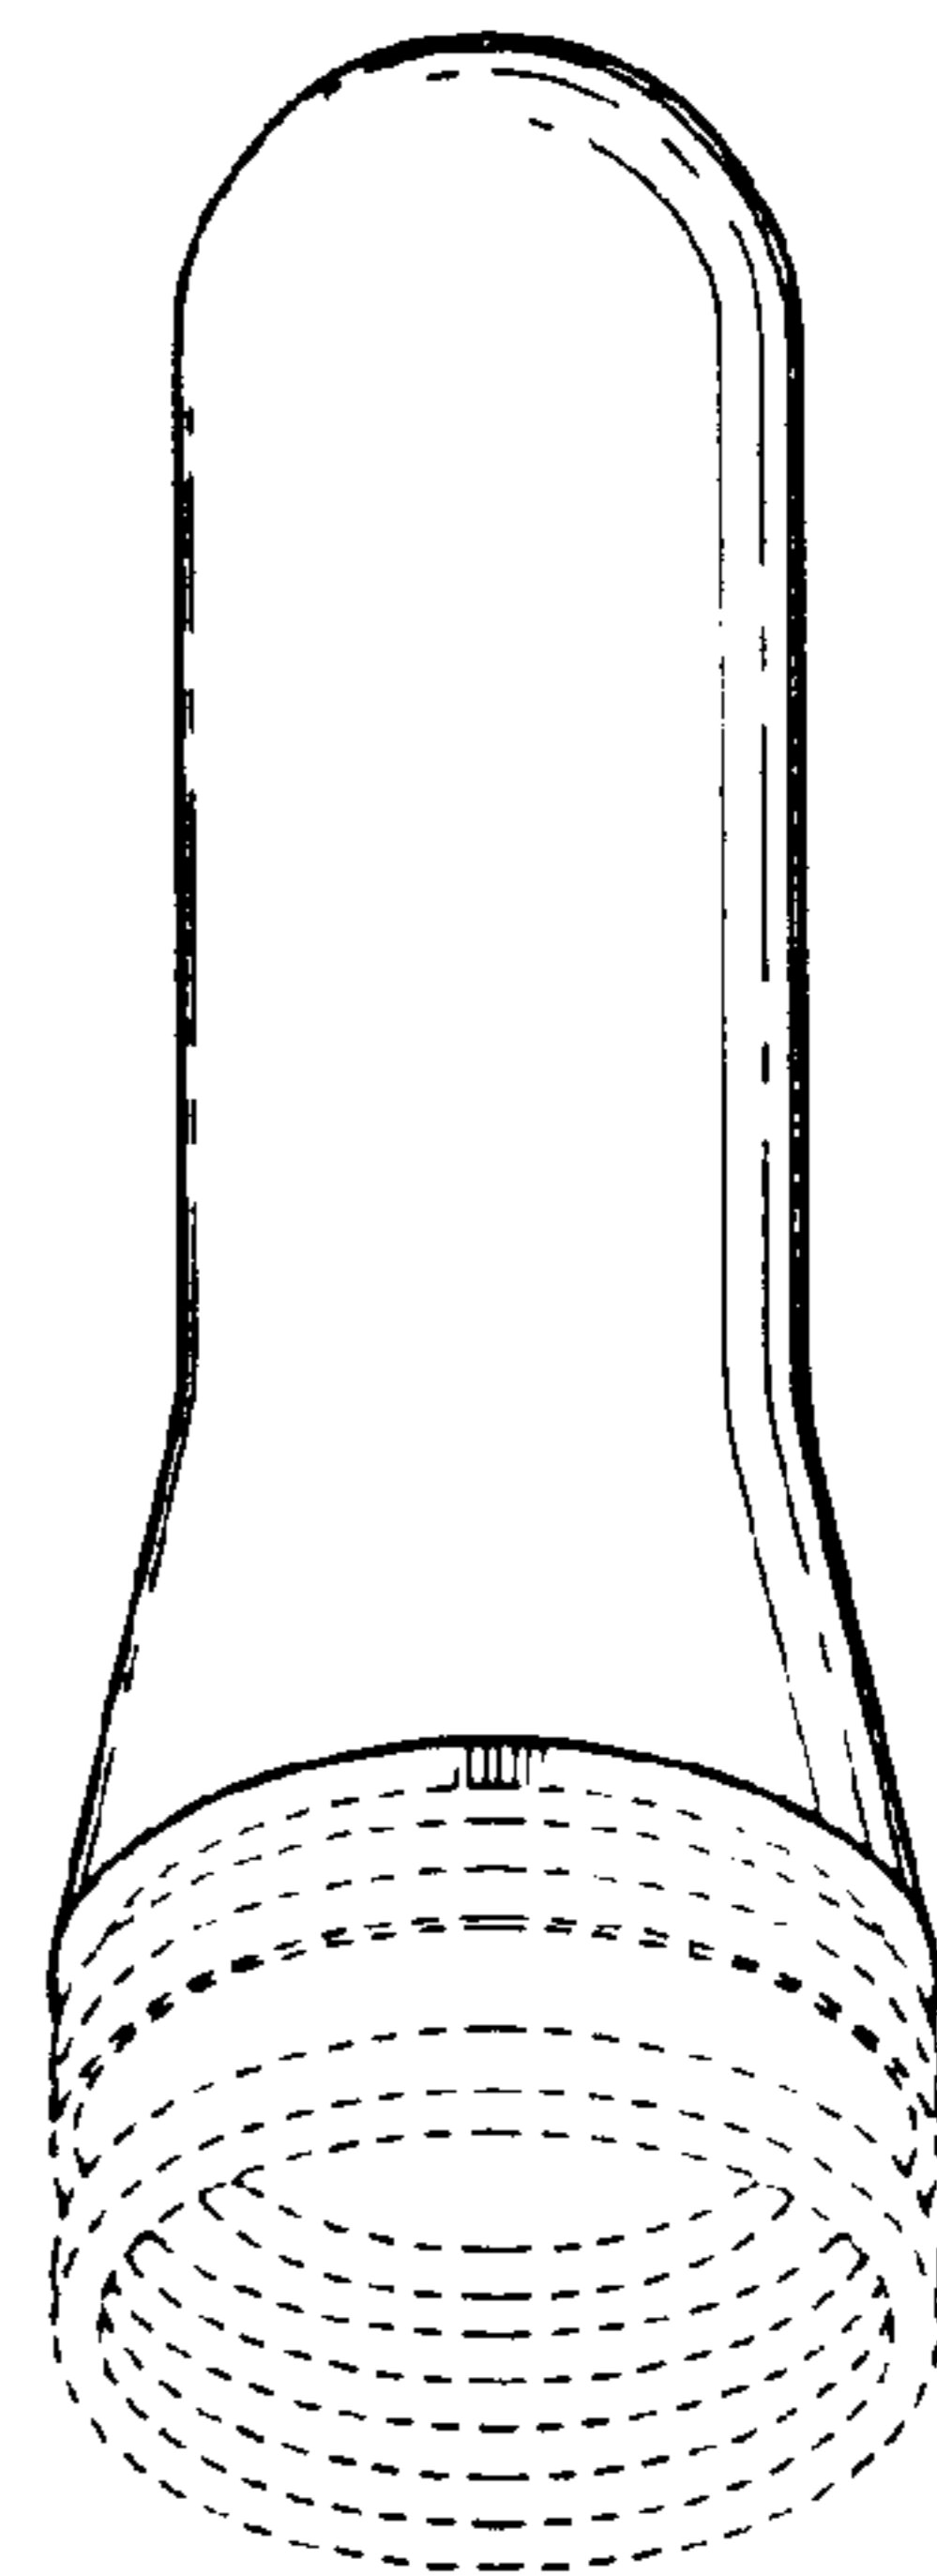

FIG. 14
- FIG. 14 is a rear elevational view thereof;